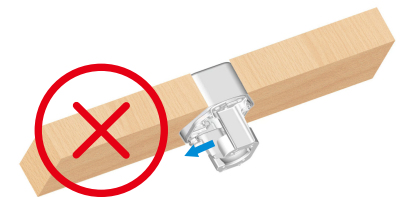

Fig. 3.5
1. When installing the mounting bracket, the bracket groove should be facing upward, as shown in Fig. 5.4. Do not install the bracket with the groove facing downward, as shown in Fig. 3.5.